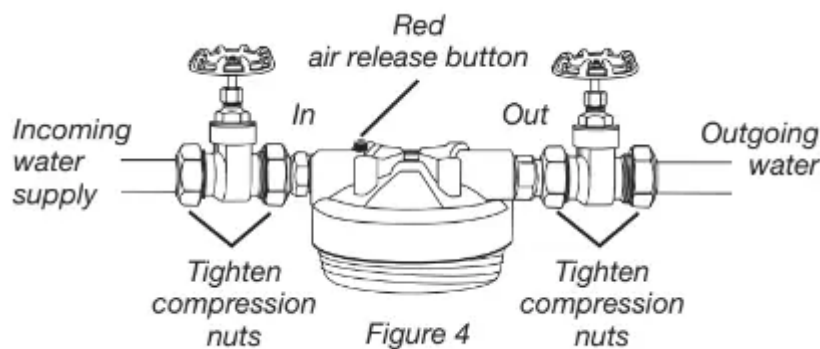

Figure 4
7. Fit filter head and gate shut-off valves onto pipe. Make sure the “IN” port with red air release button is connected to incoming water supply line. Tighten compression nuts on both sides of valves (see Figure 4). (Four locations.)